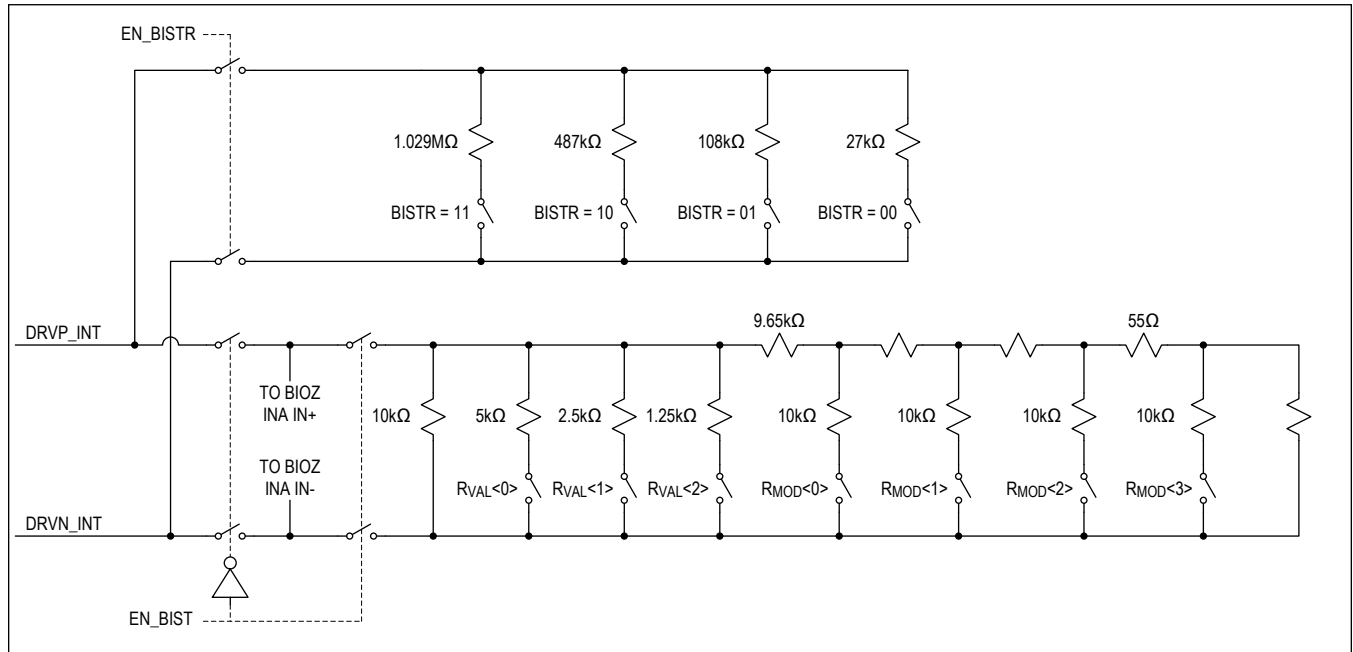

Figure 12. Programmable Resistive Load Topology
The programmable resistive load on the DRVP/DRVN pins allows a built in self-test of the current generator (CG) and the entire BioZ channel. Refer to Figure 12 for implementation details.